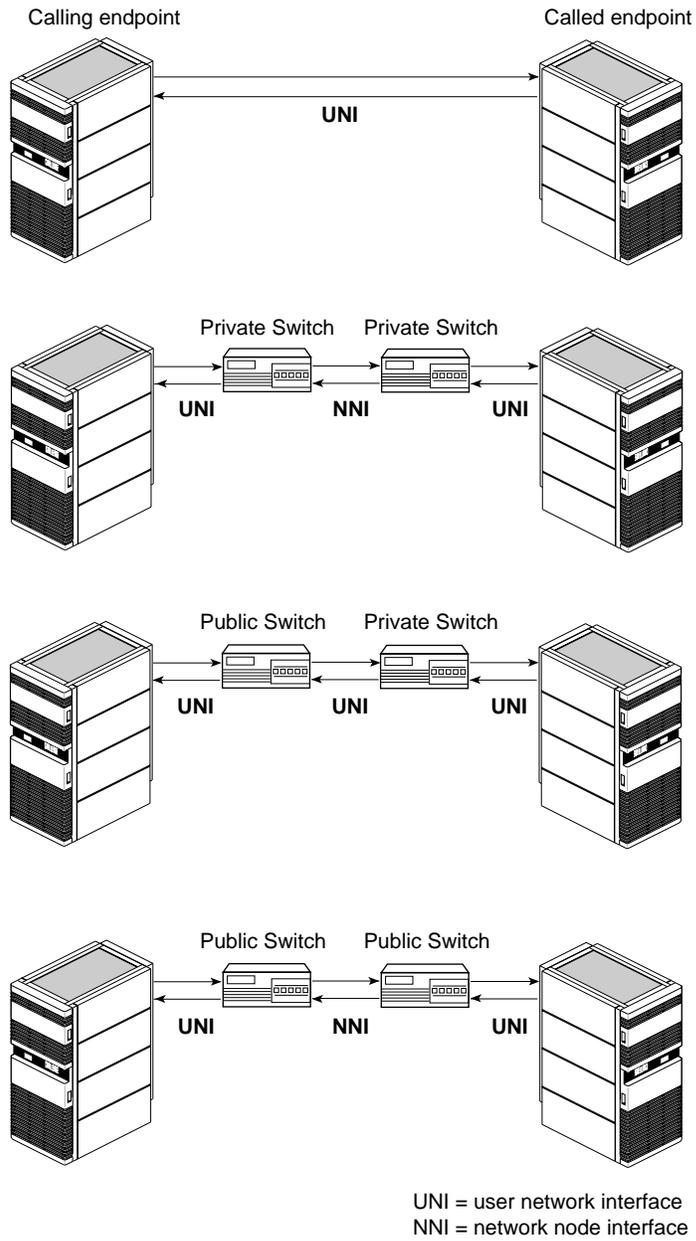

Figure 1-14 Use of UNI and NNI Protocols for ATM Signalling
ATM signalling is the protocol that sets up and tears down an SVC. This protocol's full name is ATM user-to-network interface (UNI) signalling. A calling endpoint uses ATM signalling to request a channel and to specify the *traffic contract* for the SVC. The setup request is sent to an adjacent node, which can be either an adjacent ATM switch (either public or private¹) or the called endpoint. If the recipient of the setup request is an ATM switch (the network side of the UNI interface), it uses one of the following switch-to-switch protocols to discover a route to the called party and to forward the message along through the network to the destination: (1) the network node interface (NNI) protocol with dynamically maintained route information, or (2) the interim inter-switch signaling (IISP) protocol with manually-configured route lookup tables. (Usage of UNI and NNI protocols between different types of nodes is illustrated in Figure 1-14.) For some parameters of the traffic contract, the called endpoint is able to modify the contract by selecting among a list of possible values, before the connection is completely set up. The traffic contract may be different for the forward and back channels of an SVC.